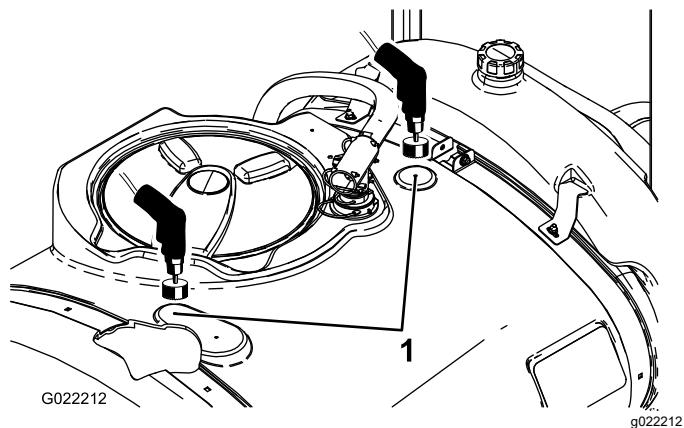

Figure 3
2. Locate the two drill marks on the main tank (Figure 3).